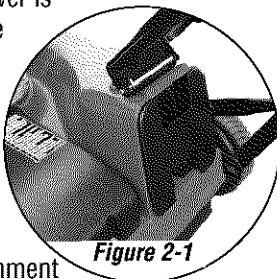
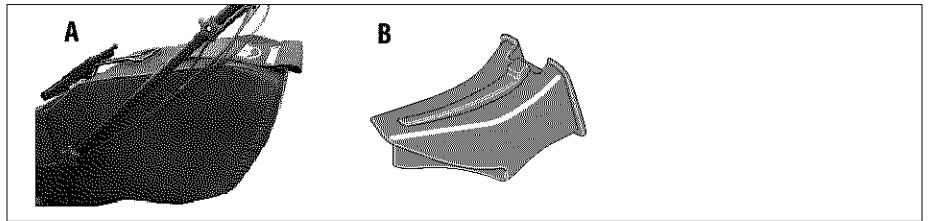

Figure 2-1
Figure 2-2: Attachments
NOTE: The mower is shipped with the Mulching Plug (B, Figure 2-2) installed in the discharge outlet (Figure 2-1).
- The Grass Catcher attachment (A, Figure 2-2).
NOTE: The mower is shipped in Mulching Mode. This means that the Mulching Plug is installed into the discharge outlet (Figure 2-1) and that the mower is ready to mulch grass clippings.